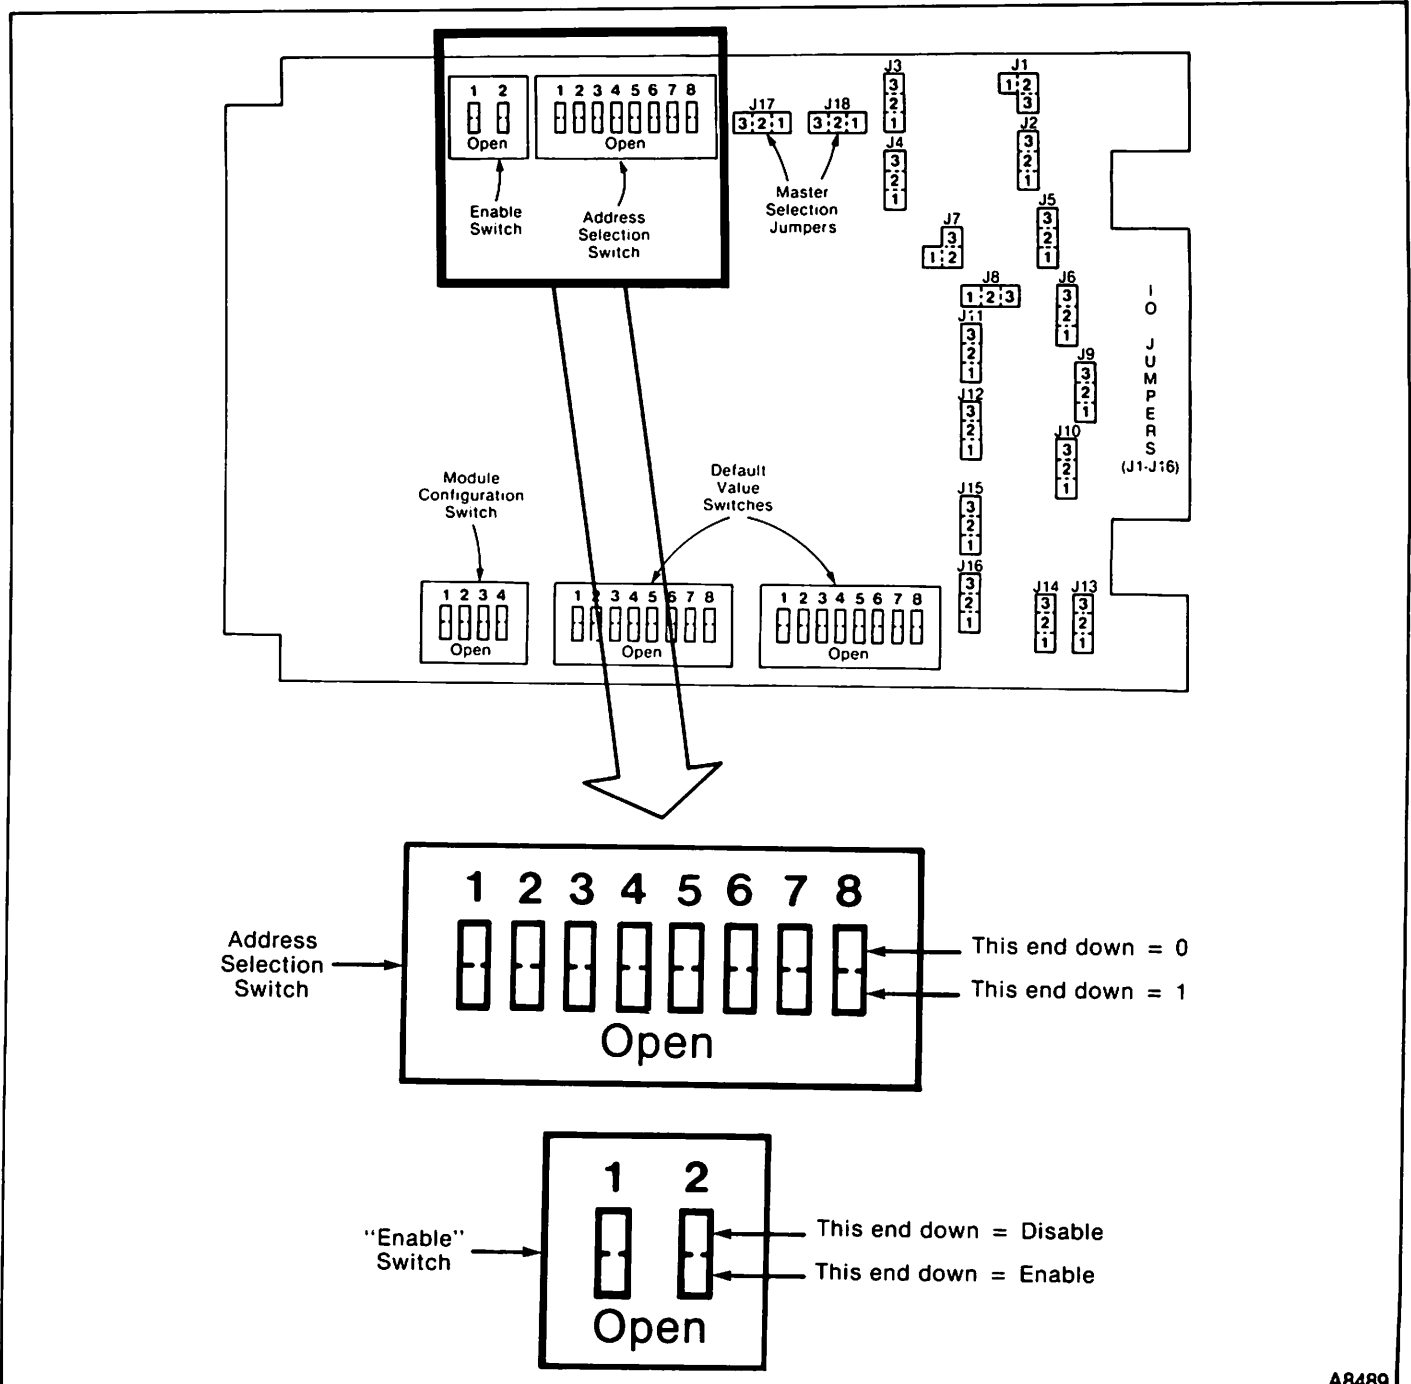

FIGURE 4 — Address Selection and "ENABLE" Switches.
**Setting Address and "ENABLE" Switches.** Figure 4 shows the address selection switch and the "ENABLE" switch for the DSM05. These switches work differently with either of the two masters that the DSM05 serves.